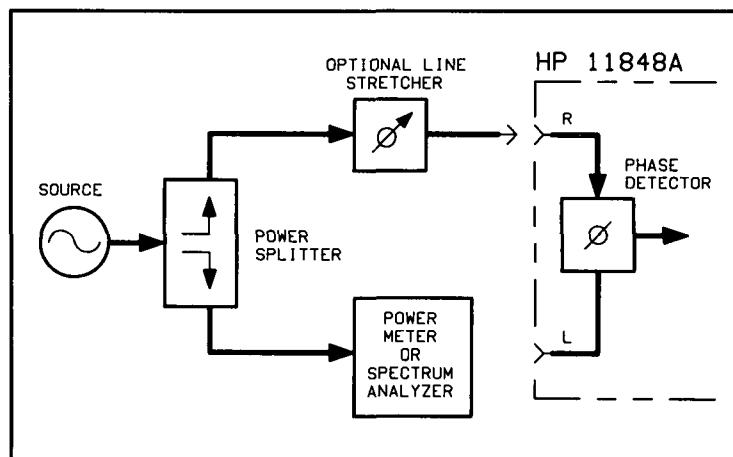

Figure 4-8. Measuring Power at Phase Detector L Port
4. If you are not certain that the power level at the L input port is within the range shown in the preceding graph, measure the level using the setup shown in Figure 4-8.